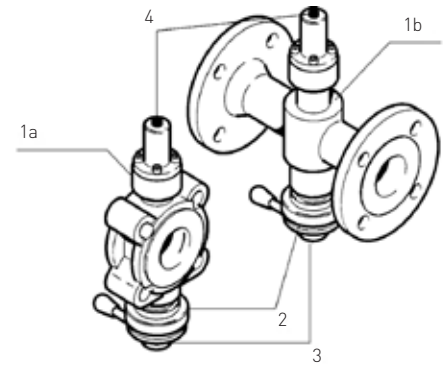

Figure 1
4.1.1 Sampling valve for sampling with piston syringes (Figure 1)